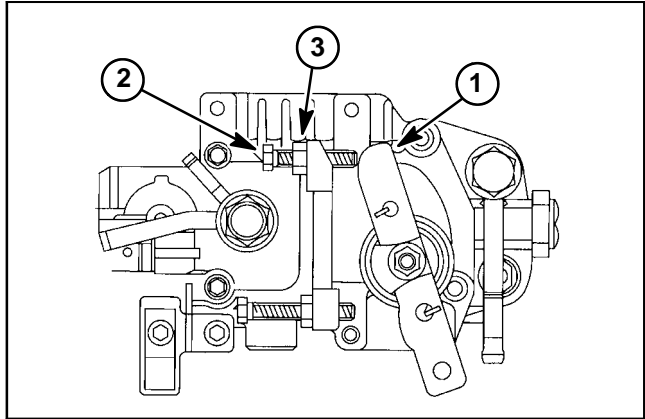

Figure 2
5. If idle speed is incorrect, adjust idle speed screw (Fig. 2).